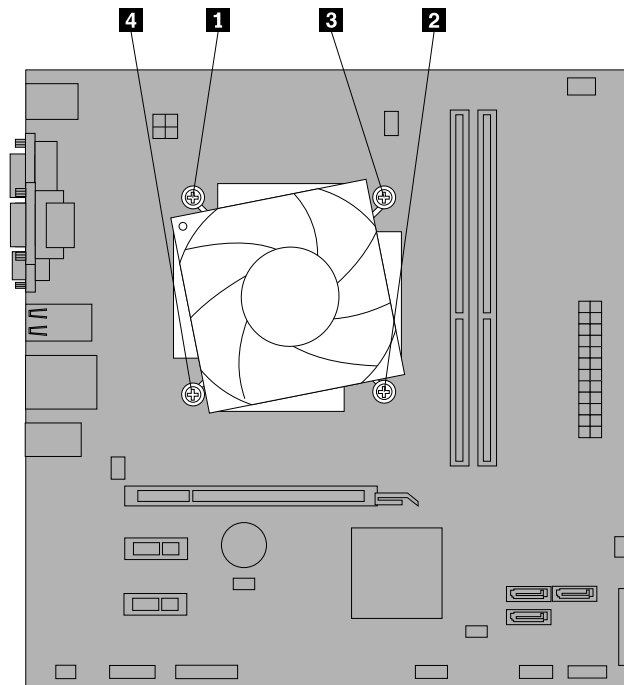

Figure 76. Removing the heat sink and fan assembly
8. Follow this sequence to install the four screws to secure the new heat sink and fan assembly, as shown in Figure 76 “Removing the heat sink and fan assembly” on page 132: